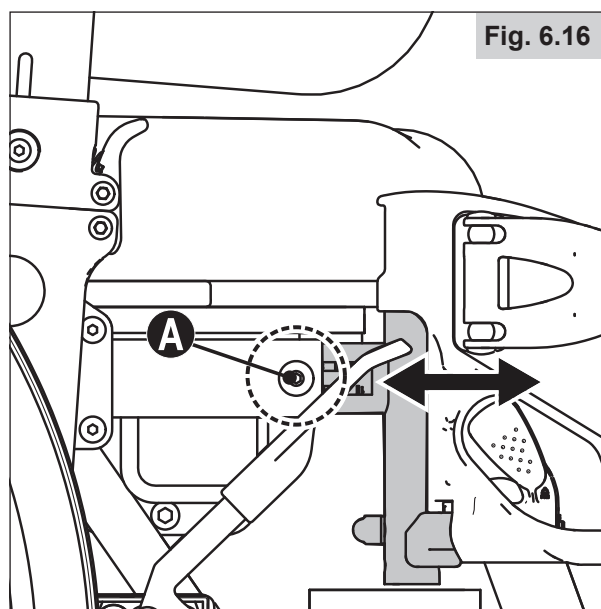

Fig. 6.16
6.15 Adjusting the seat depth/upper leg length by moving the leg support fitting (Fig. 6.16)